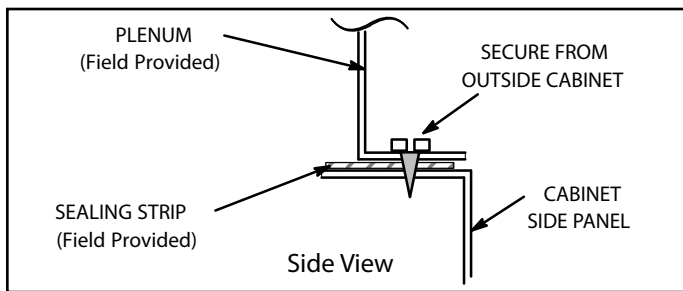
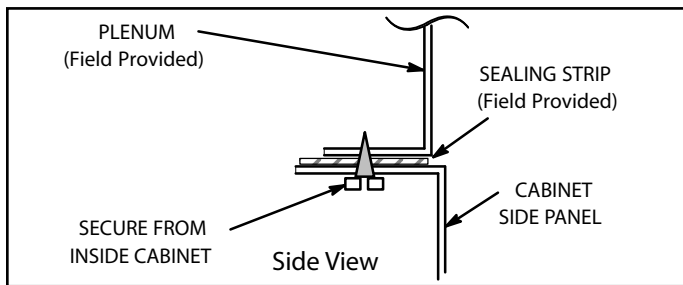

Figure 17.
Figure 18.
- Bottom edge of plenum should be flanged with a hemmed edge (see Figure 17 or Figure 18).